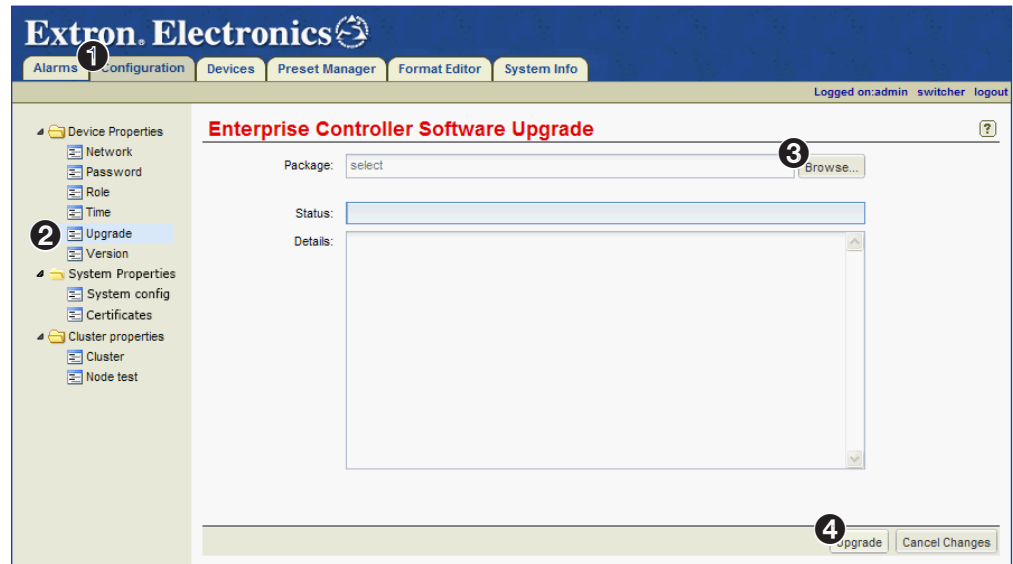

Figure 178. Configuration Page — Redundant Secondary Controller
2. Select the **Configuration** tab (see figure 178, ❶).